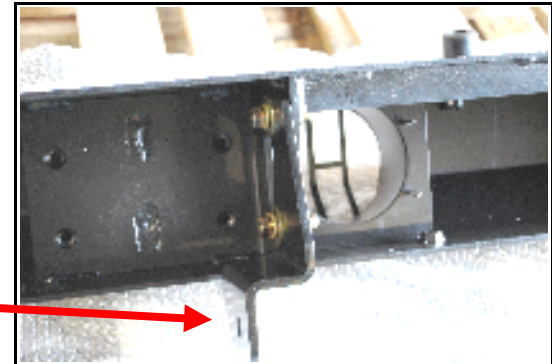

Figure 5
Step 8 - Install the last two 7/16-20 Grade 8 bolts on each brackets with Lock Washers & Flat Washers and the Weldnut Tabs. Weldnut Tabs are placed up inside the square tube that is attached vertically to the vehicles' frame. (See Figure 5)